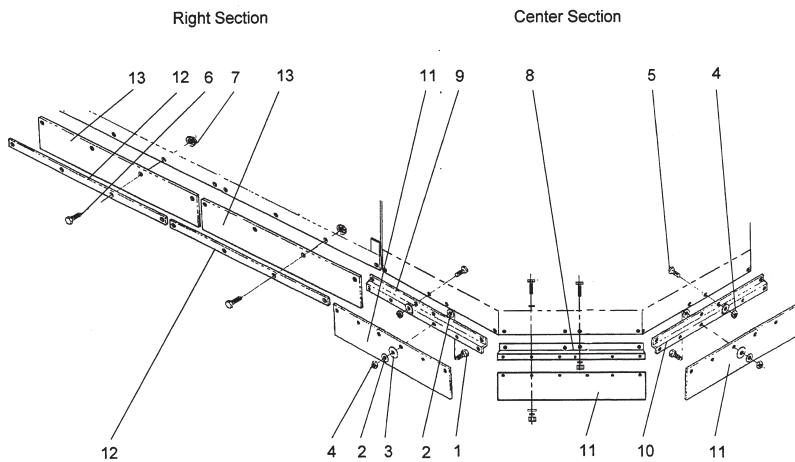

FIGURE 14. Front Rubber Deflector Attachment.
Attach the Center Front Deflector Brackets (8,9,10) to the Center Section with the bolts $1/2" \times 1-1/4"$ (5), locknuts (4), and flatwashers (2). Fasten the Center Section Front Rubber Deflectors (11) (FIGURE 14) to these brackets with bolts $3/8" \times 1"$ (1) locknuts (4) flatwashers (2), and woodwasher (3).